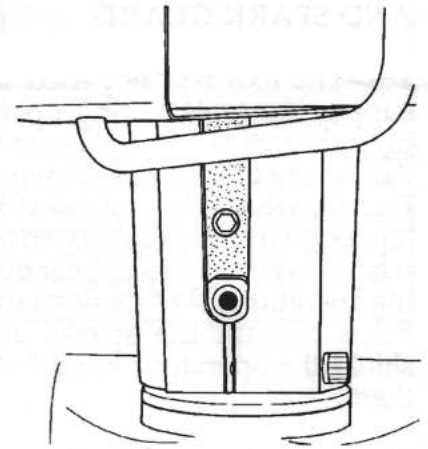

Fig. 20
**21.** Line up the knurled collar's "putty spot" with the arbor's setscrew (14), as viewed through the "neck" of the grinding wheel guard. See Fig. 20.